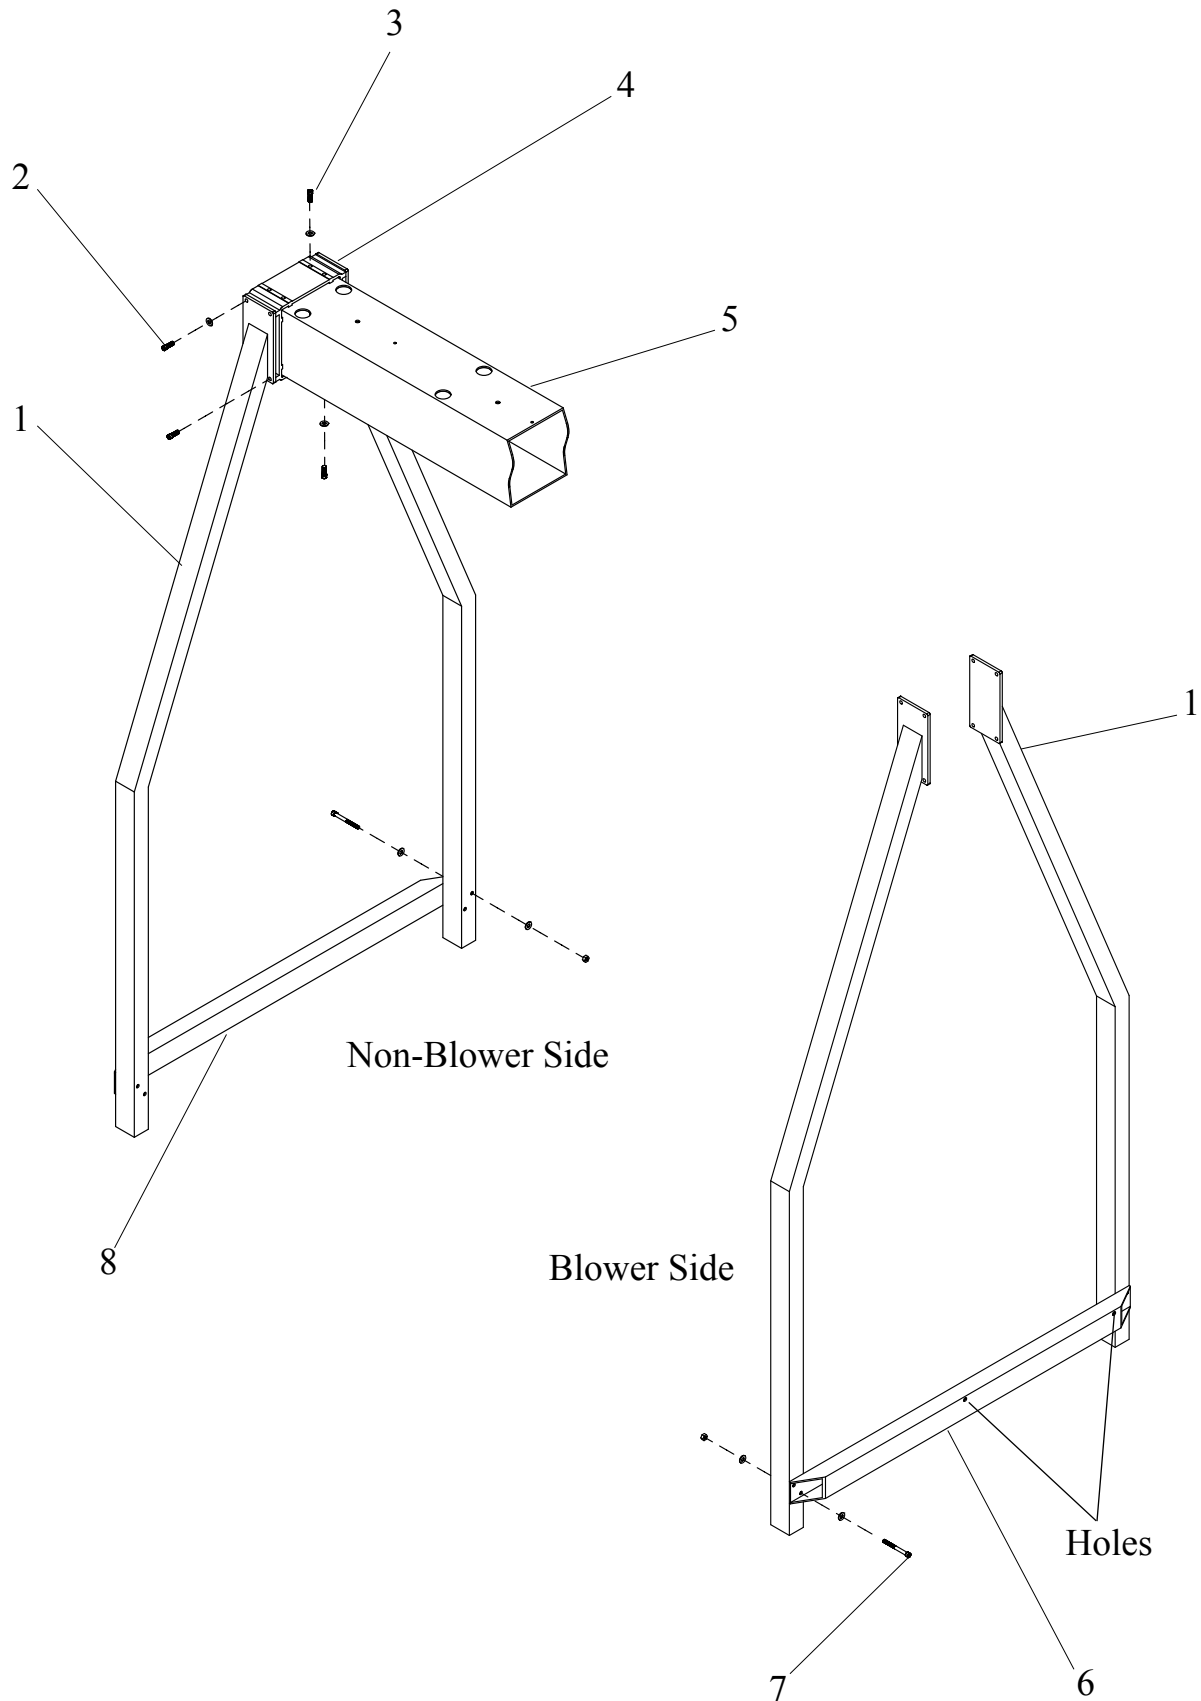

Figure 4. Leg Assemblies
NOTE: The blower side leg brace (6) has two holes for attaching the blower assembly. Ensure that these holes are on the blower side as shown in figure 4.
1. Connect leg braces (6 and 8) between each pair of leg assemblies (1) with eight screws (7), washers, and nuts.